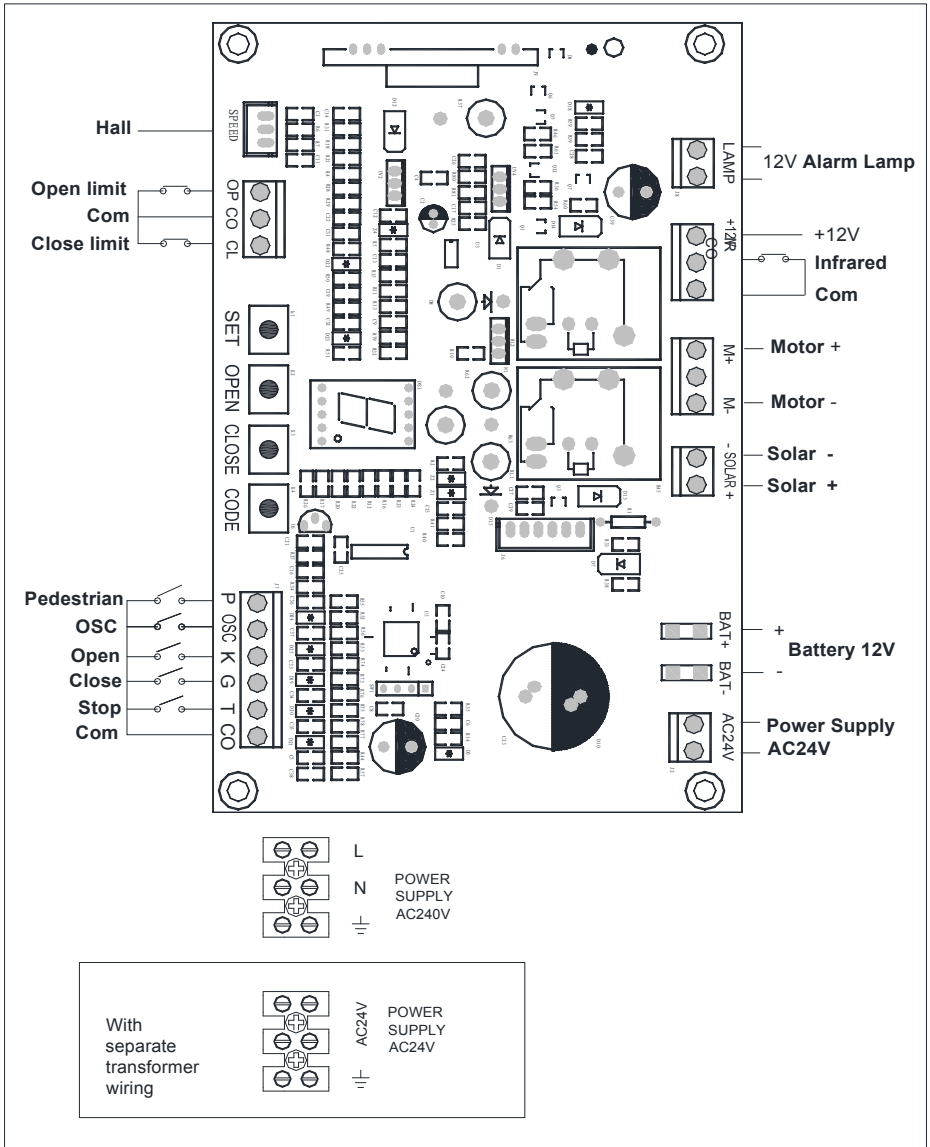

Fig.7 Control board Diagram
1. Press and hold **SET** (see Fig.7 control board), release the button until '1' indicated on the LED display.
- Short circuit the infrared terminal block (see Fig.7 terminal 4 and 5) if the gate only runs in open direction.